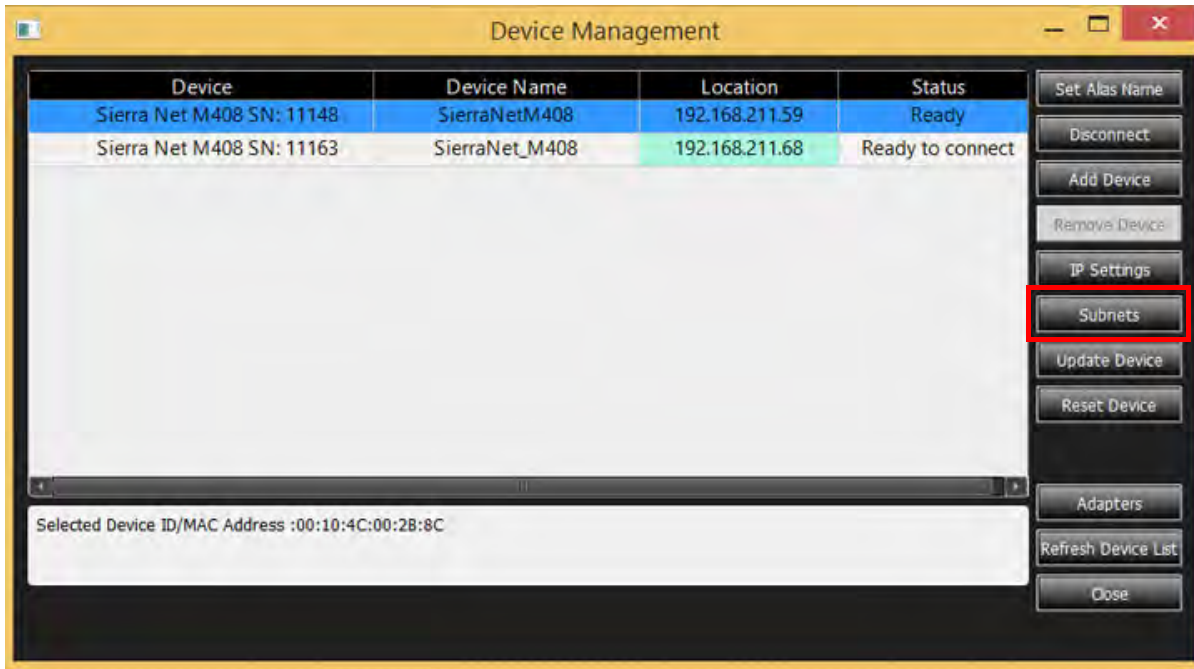

Figure 2.68: Device Management Window
- From the Main Toolbar (Figure 2.46), select **Setup** → **Device Management**. The Device Management window opens (Figure 2.68).
1. From the Main Toolbar (Figure 2.46), select **Setup** → **Device Management**. The Device Management window opens (Figure 2.68).